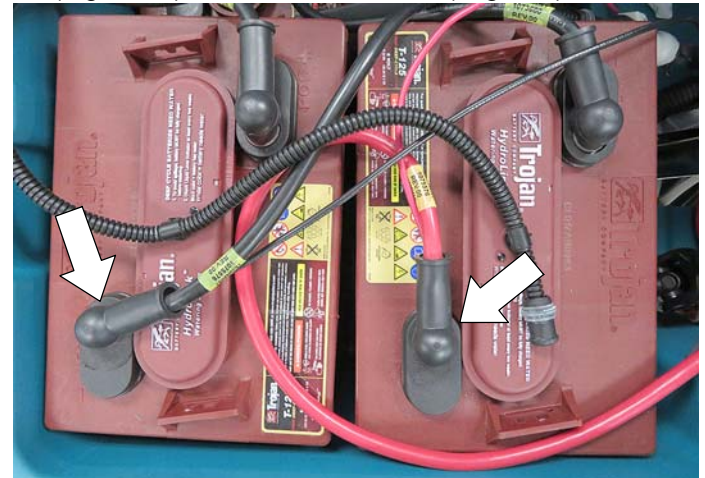

Fig. 17
19. Connect the battery cable harness to the batteries (Figure 17). Connect black cable (negative) first.